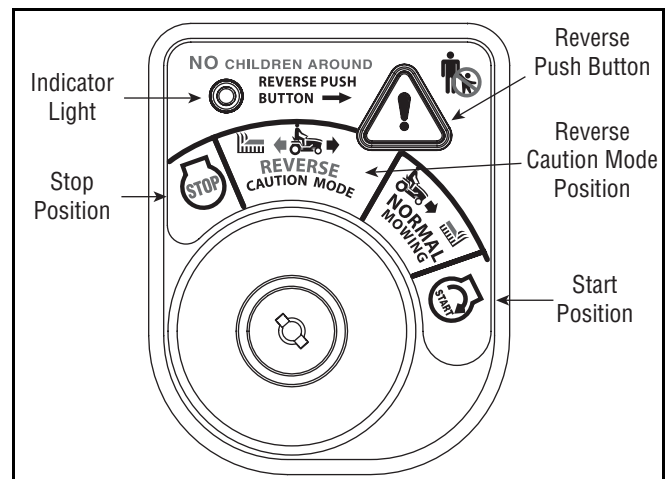

Figure 7
2. Turn the key from the **NORMAL MOWING** (Green) position to the **REVERSE CAUTION MODE** (Yellow) position of the key switch module. See Figure 7.
3. Depress the **REVERSE PUSH BUTTON** (Orange, Triangular Button) at the top, right corner of the key switch module. The red indicator light at the top, left corner of the key switch module will be **ON** while activated. See Figure 7.